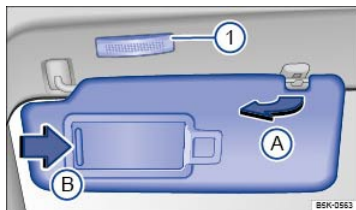

Fig. 102 Sun visor.
A vanity mirror is behind a cover in the sun visor. When you slide the cover open ⇒ Fig. 102B, the light ⇒ Fig. 102① (if equipped) comes on.